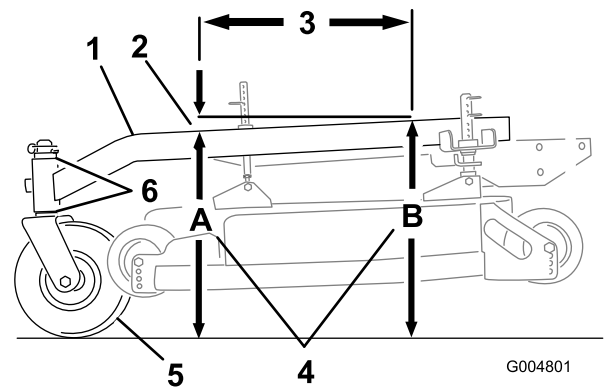

Figure 64
2. Measure carrier frame height at location **A** (Figure 64).
3. Measure carrier frame height at location **B** (Figure 64).
4. The height at location **A** must be a 6 mm -10 mm (1/4-3/8 inch) lower than location **B** (Figure 64).
5. If the carrier frame is not correct, move caster spacers to make it a 6 mm -10 mm (1/4-3/8 inch) pitch (Figure 64).
The carrier frame must have a pitch between 3 mm (1/8 inch) to 9 mm (3/8 inch) over the length of 61 cm (24 inches) on the carrier frame (Figure 64).
1. Measure out 61 cm (24 inches) on the carrier frame (Figure 64).